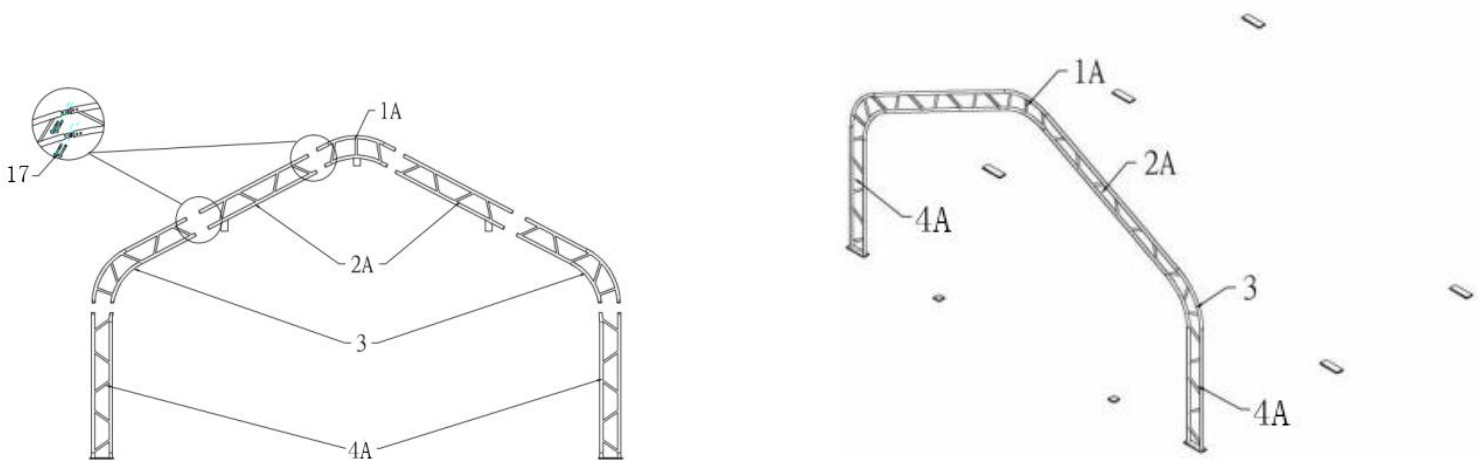
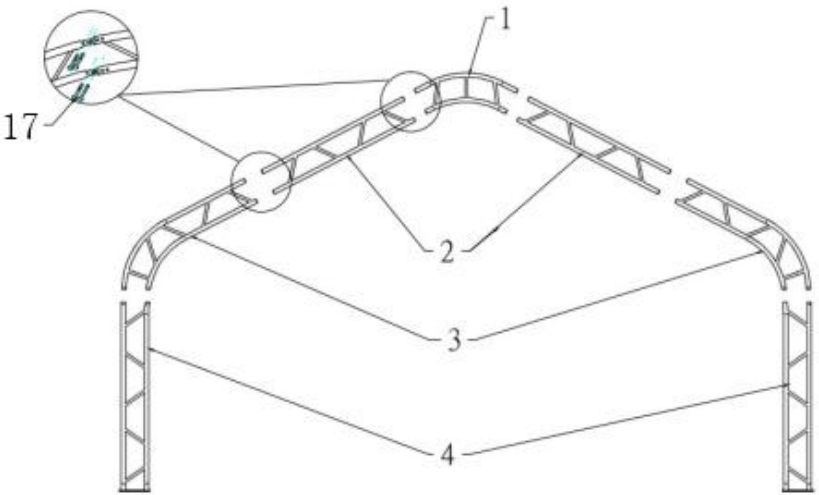

Figure 3
Figure 4
1. Figure 3 shows to connect the Roof bent tube for front and back door (No.1A), Sidewall bent tube for front and back door (No.2A), Shoulder bent tube (No.3), Standing leg (No.4) and Standing leg for front door (No.4A) with Bolt 8x60 (No.17), then put the arch into tube of the Base flange by hoist (see Figure 4)
2. Figure 4 shows to connect the second-the end groups' Roof bent tube (No.1), Sidewall bent tube (No.2), Shoulder bent tube (No.3), and Standing leg (No.4) with Bolt 8x60 (No.17), then put the arch into tube of the Base flange by hoist, and assemble every group arch by turns (see Figure 5)